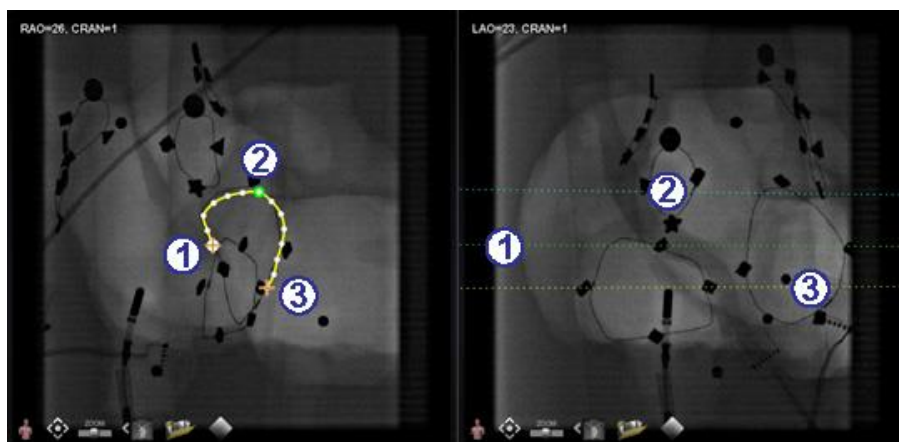

Figure 165. Proximal, selected, and distal points
- ① The green dotted line indicates the epipolar line of the proximal point. In **Figure 165**, the proximal anchor point has a solid circle behind the orange cross.
- ② The yellow dotted line indicates the epipolar line of the distal point.
In the image below (**Figure 165**), the proximal anchor point **(1)**, selected point **(2)**, and **(3)** distal anchor point are shown. To cancel the selection, click elsewhere on the image.